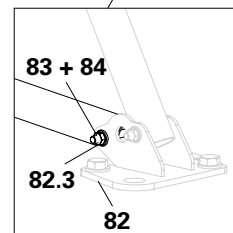

Fig. C4.06b
1. Fit an inner tube (**81.2**) onto the front hole (**82.3**) of the base plate (**82**) by means of bolts (**83**) and nuts (**84**). (Fig. C4.06b).